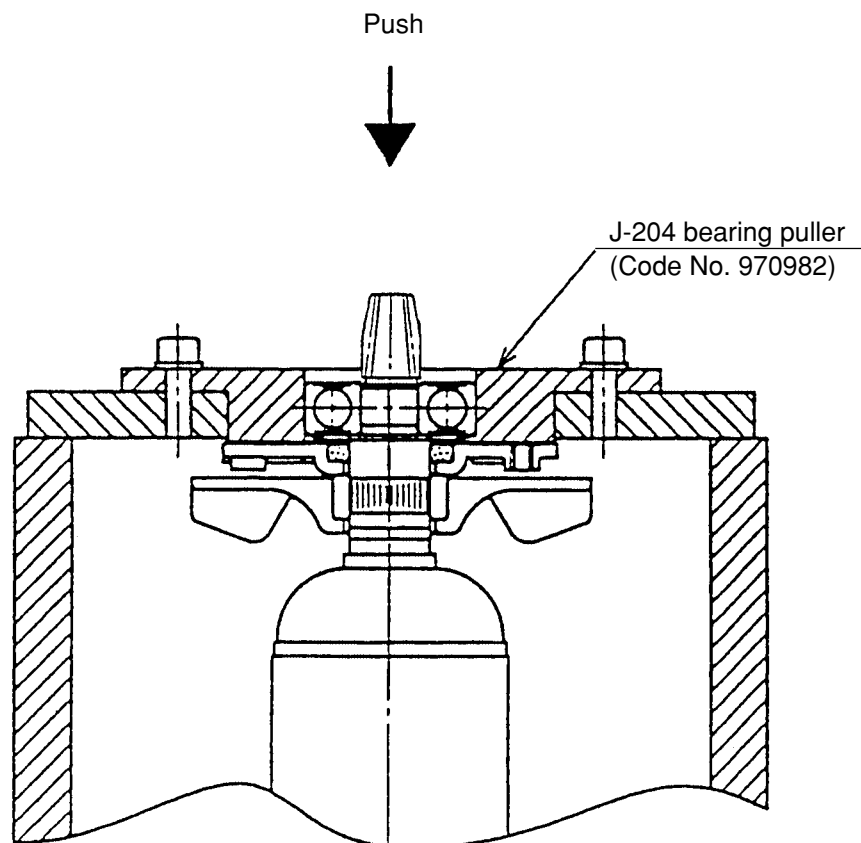

Fig. 3
- (1) Loosen the two Brush Caps **[45]**, and take out the Carbon Brushes **[46]**.
- (2) Remove the four Tapping Screws (W/Flange) D5 x 30 **[2]**. The Armature Ass'y **[13]** can then be taken out simultaneously with the Gear Cover Ass'y **[5]**, Packing Gland **[30]** and related parts.
- (3) Remove the four Seal Lock Screws (W/Sp. Washer) M5 x 14 (Black) **[31]**, and remove the Packing Gland **[30]**, and related parts.
- (4) After removing the three Seal Lock Screws (W/Sp. Washer) M4 x 10 **[1]**, the Armature Ass'y **[13]** can be extracted together with the Bearing Cover (B) **[12]**, and related parts.
- (5) Carefully wrap the Armature Ass'y **[13]** with a soft, clean rag to protect it from being damaged, and clamp it securely in a vise. Remove the Retaining Ring for D8 Shaft.
- (6) As illustrated in Fig. 3, the Ball Bearing 6200DDCMPS2L **[9]** can be removed from the Armature Ass'y **[13]** by utilizing a J-204 Bearing Puller (special repair tool, Code No. 970982).
- After the Ball Bearing has been removed, Bearing Cover (B) **[12]** can be easily taken off.